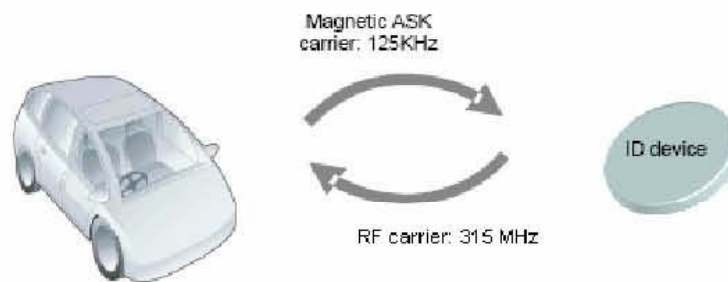

Figure 1: System description
1.5.1 I-Key Passive entry function (figure 1)